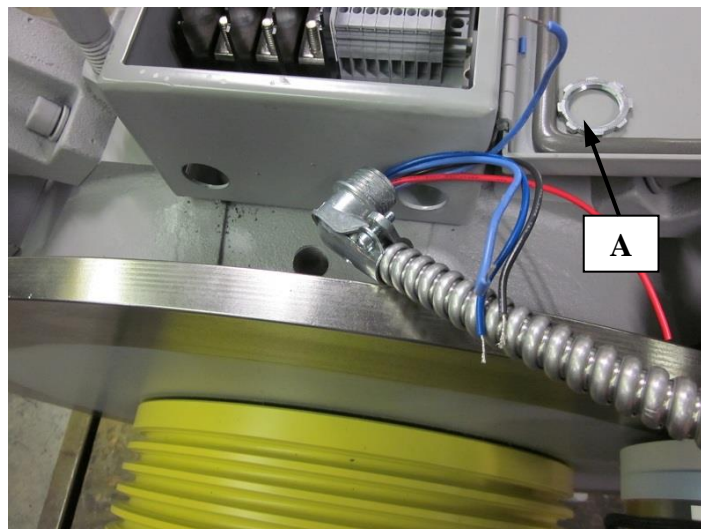

Figure 7
- After writing down the wire colors and terminal block designations, remove the proper brake wires from the terminal blocks and remove the conduit nut "A." Refer to Figure 7.